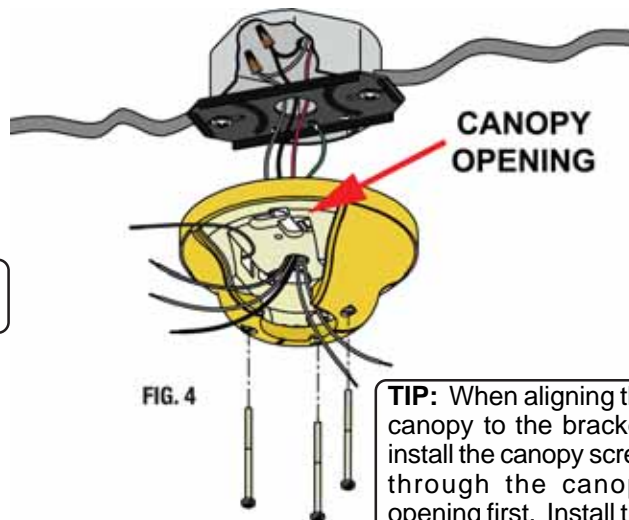

FIG. 4
Step 9. Refer to the “Canopy Installation” section of the ceiling fan manual for directions on installing the canopy screws and lock washers. (FIG. 4)